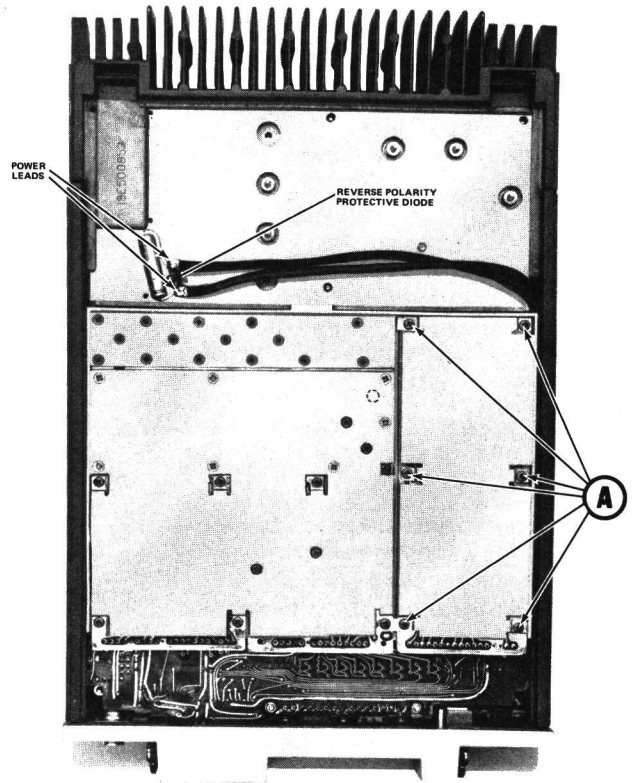

Figure 3 - Disassembly Procedure Bottom View
3. To gain access to the bottom of the exciter board, remove the six screws (A) holding the exciter board and its bottom cover to the module mounting frame, and remove the bottom cover (See Figure 3).
2. Remove the six screws (A) holding the exciter board and its bottom cover to the module mounting frame. (Figure 3)